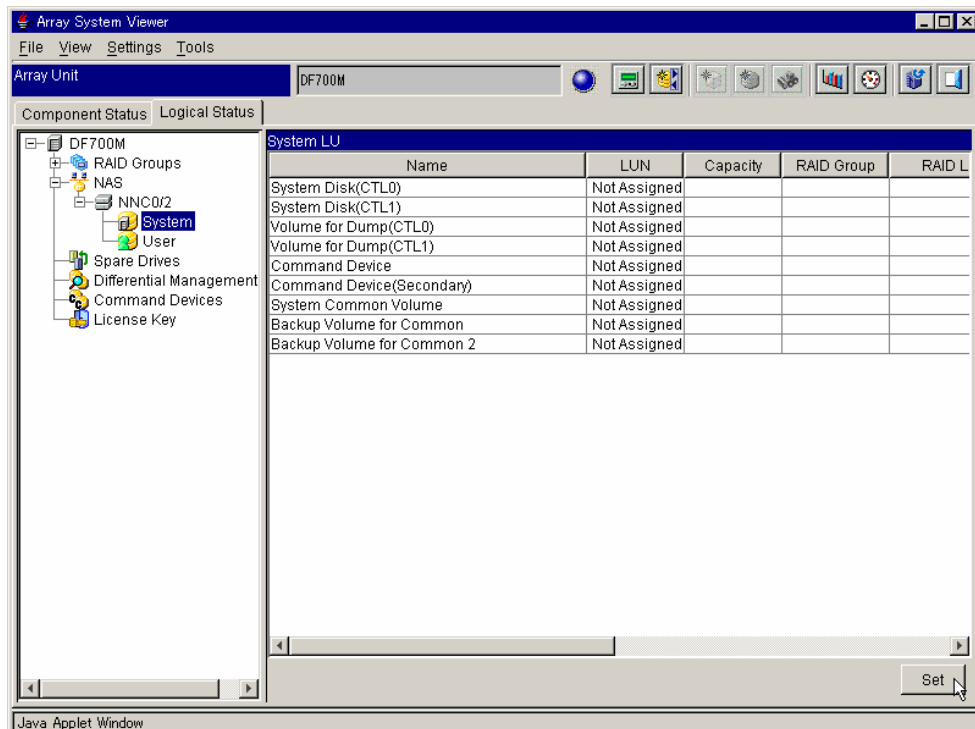

Figure 10.4 Array System Viewer - NNC0/2
2. Click the NAS plus sign. See Figure 10.4.